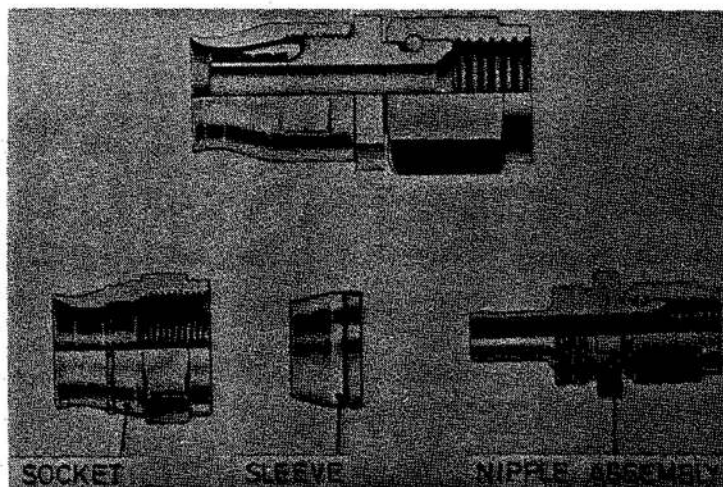

Fig. 8 Typical 'Super Gem' fitting
#### 'Super Gem' fittings for Teflon hose (fig. 8)
14. These fittings are available in the flared and flareless types for use in both medium and high pressure applications. The 'Super Gem' fitting is basically the same as the 'Little Gem' fitting and works on the same principle. The cutting spur of the 'Little Gem' nipple is replaced in the 'Super Gem' by a separate sleeve (see fig. 8).